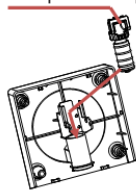

Figure 1
① Feed port upper cover	⑤ Handle tip
② Feed port base	⑥ Sealing ring
③ Feed port plug	⑦ Feed port sealing ring
④ Handle	⑧ Feed port cover
1. Insert ③ into ② as shown in Figure 1.
Follow the steps from Figure 1 to Figure 8 in reverse order.